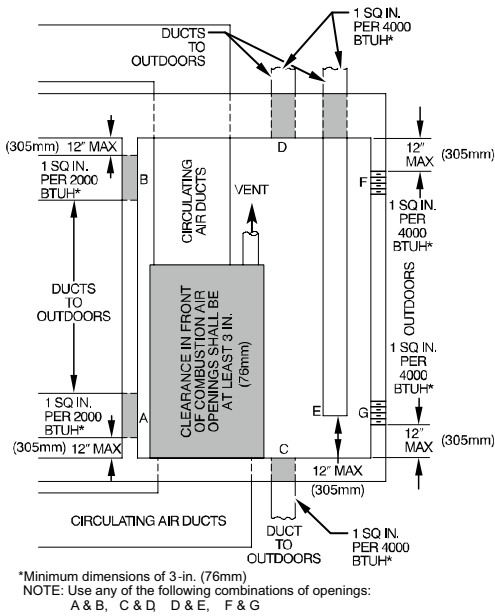

Fig. 6 – Air for Combustion, Ventilation, and Dilution for Outdoors
2. Fig. 6 illustrates how to provide TWO OUTDOOR OPENINGS, one inlet and one outlet combustion and ventilation air opening, to the outdoors.
- b. Size openings and ducts per Fig. 6 and Table 4.
- c. TWO HORIZONTAL DUCTS require 1 sq. in. (645 sq. mm) of free area per 2,000 BTUh (1,100 mm2/kW) of combined input for all gas appliances in the space per Fig. 6 and Table 4.
- d. TWO OPENINGS OR VERTICAL DUCTS require 1 sq. in. (645 sq. mm) of free area per 4,000 BTUh (550 mm2/kW) for combined input of all gas appliances in the space per Fig. 6 and Table 4.
- a. 1 sq. in. (645 sq. mm) of free area per 3,000 BTU/h (734 mm2/kW) for combined input of all gas appliances in the space per Fig. 6 and Table 4.